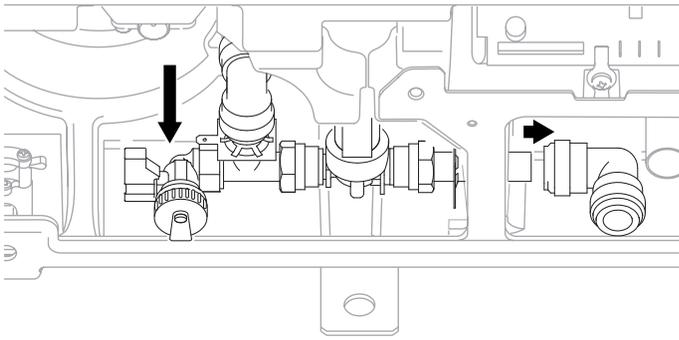

Figure 22: Inlet assembly removal
- ▶ At either end of the inlet control assembly are two 15mm push fit connectors. Remove the inlet control assembly by releasing the two push fit connectors, one from the internal tank and the other from the cold water feed pipe, see figure 22.